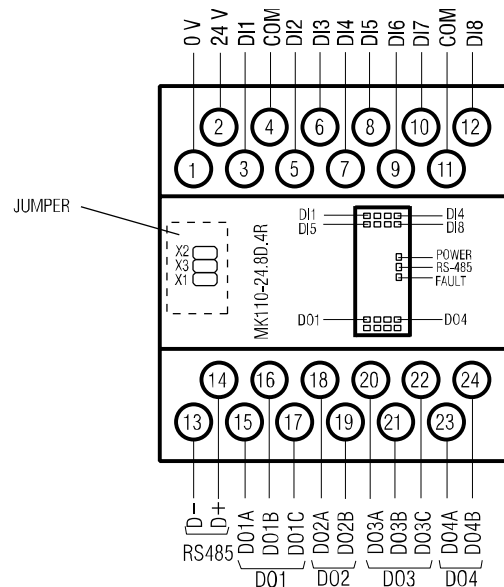

Fig. 4.1 Electrical connections
- Electrical connections are given in Fig. 4.1, and terminal arrangement is given in Table 4.1.
- Open the front cover of the module (see Fig. 4.1)